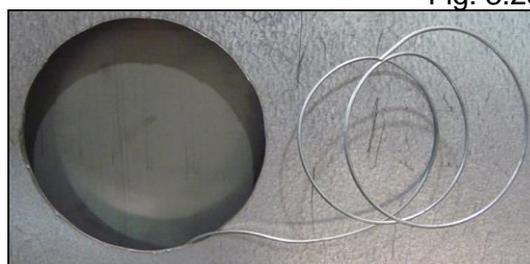

Fig. 3.24
11. To clean the inside of the suction pipe, insert the wire through the hole until it comes out at the bottom (Fig. 3.24).